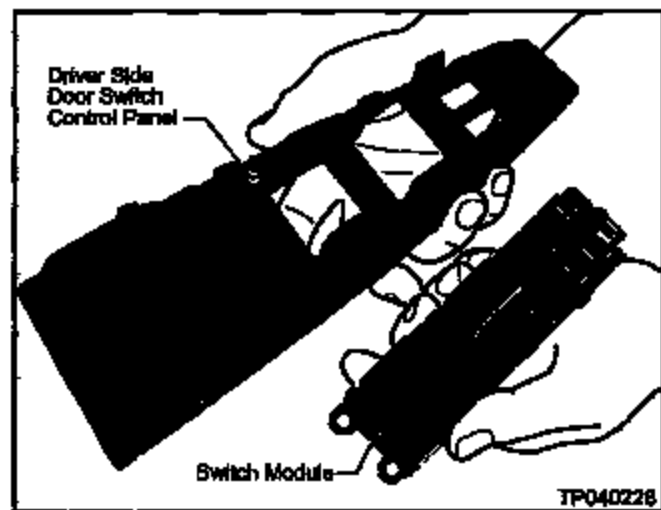

Figure D4
- d. Remove the Switch Module from the Control Panel (see Figure D4).